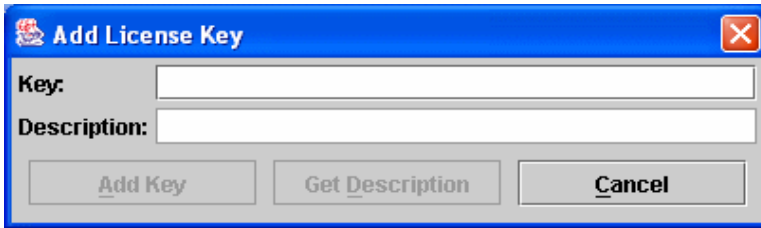

Figure 42 Add License Key dialog
4. Click **Add** to open the Add License Key dialog shown in Figure 42.